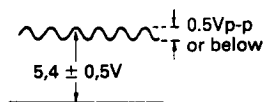

Figure 46.
2. Monitoring AN pin ③ with an oscilloscope (internal trigger), check that the requirements given in Figure 46 are met.